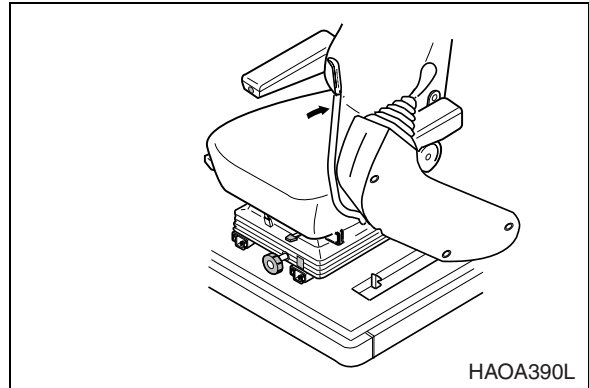

Figure 24
3. Set safety lever on "LOCK" position by pulling it up (Figure 24).